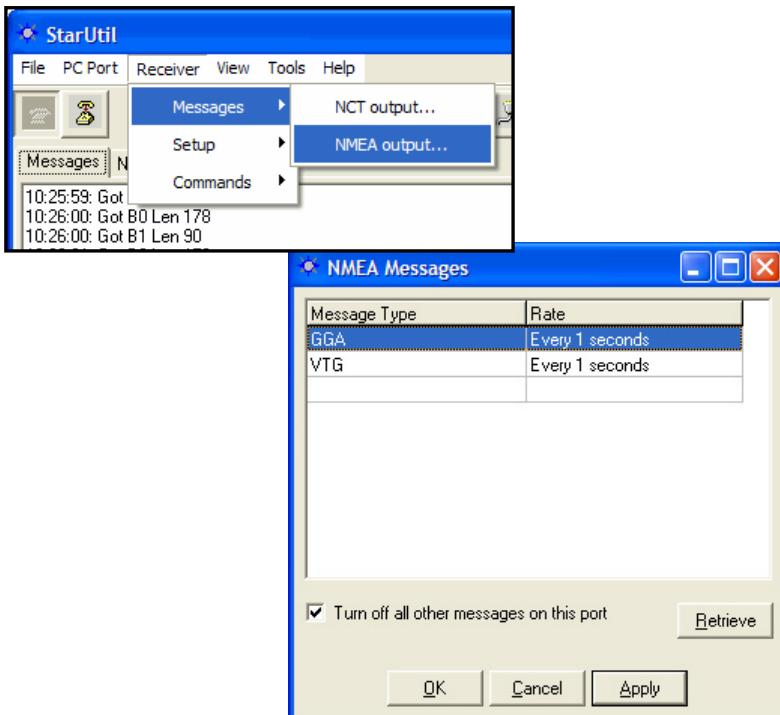

Figure 100: NMEA Message Output List
- ✓ Select *Receiver > Messages > NMEA output* from the menu bar. The *NMEA Messages* window opens with the current message output list (see Figure 100).